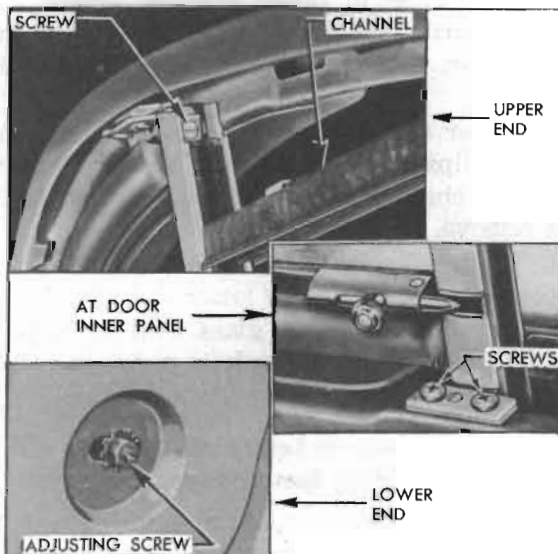

Figure 13-28—Window Division Channel Attachments
2. Remove the retaining screw holding upper end of division channel to door header and remove the two self-tapping screws attaching division channel to the top edge of door inner panel. See figure 13-28.